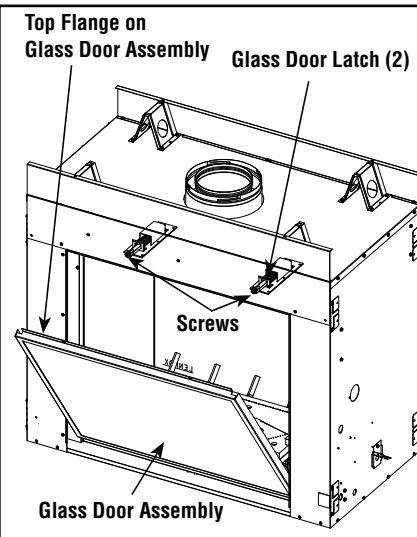

Figure 65
(see Figure 65)
- b) Position the door in front of the firebox opening, with the top of the door held away from the fireplace (see **Figure 65**).
- d) Using a #3 Phillips screwdriver, fasten the door frame to the door latches with the two (2) latch screws. The latches should pull forward to engage the door frame.